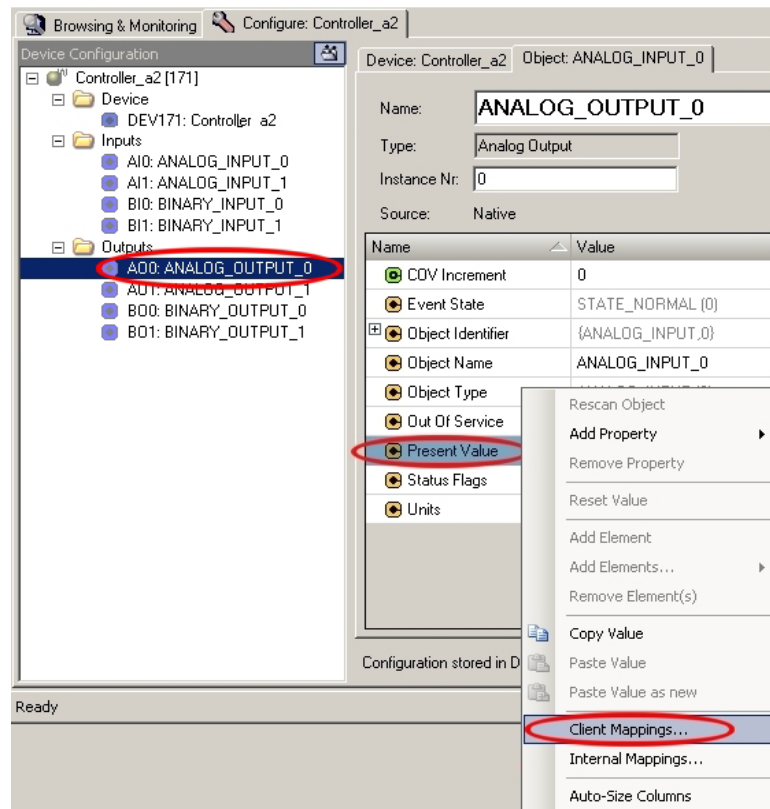

Fig. 4-29: Opening the Client Mapping Editor
3. Right click on a property and choose **Client Mappings...** (see Fig. 4-29).